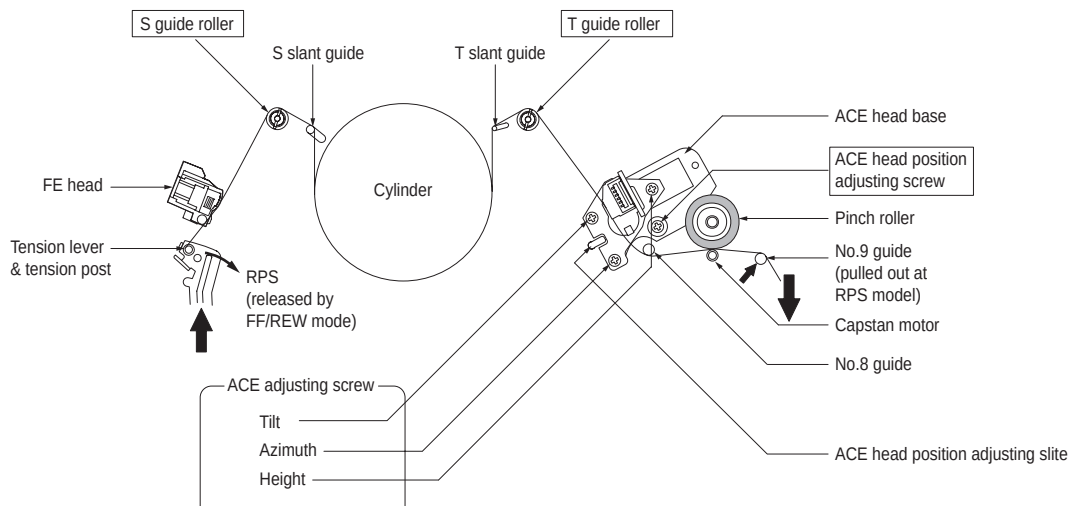

Fig. 15-2 Tape Path System
The tape come out from the supply reel (S) of the video cassette runs through paths shown in Figs. 15-2 and 15-3, and is taken up by the take-up (T) reel. (S stands for the supply reel, and T for the take-up reel, hereafter.)